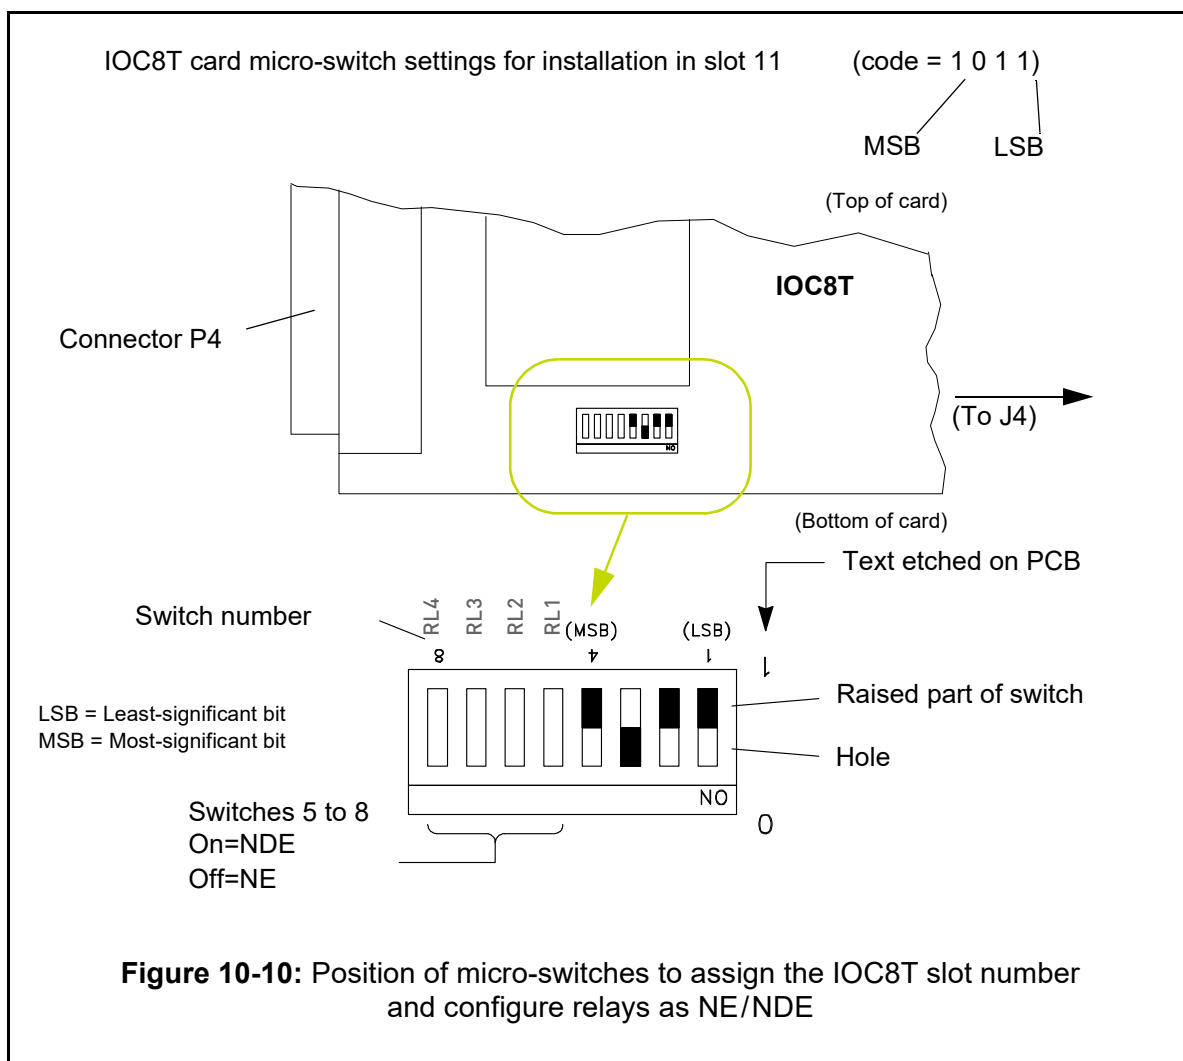

Figure 10-10: Position of micro-switches to assign the IOC8T slot number and configure relays as NE/NDE
As explained in 9.4.2 Operation of relays, micro-switches must be set on the IOC8T card to configure each relay as normally energised (NE) or normally de-energised (NDE). See Figure 10-10 for the position of the micro-switches on the IOC8T card.
The example in Figure 10-10 shows the micro-switch settings required for an IOC8T card installed in slot 11 of a rack.